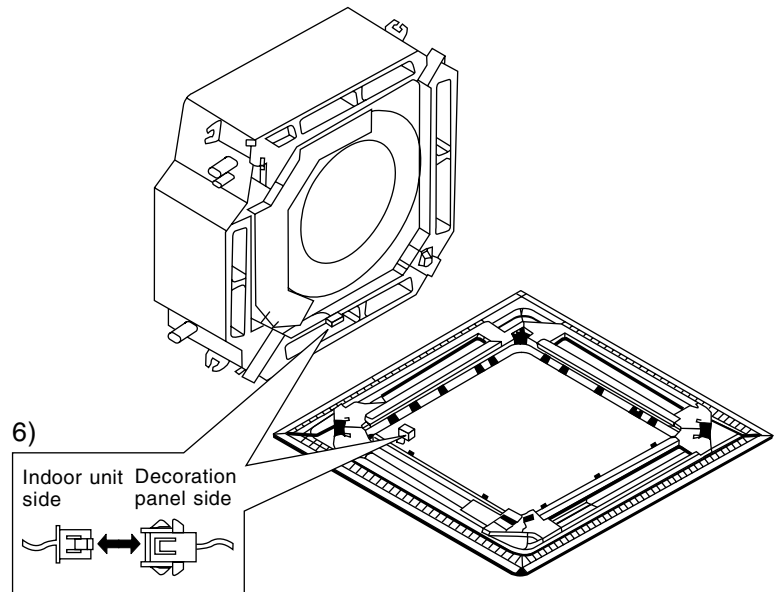

Fig. 7
(3) Wiring of the decoration panel (Refer to Fig. 7)